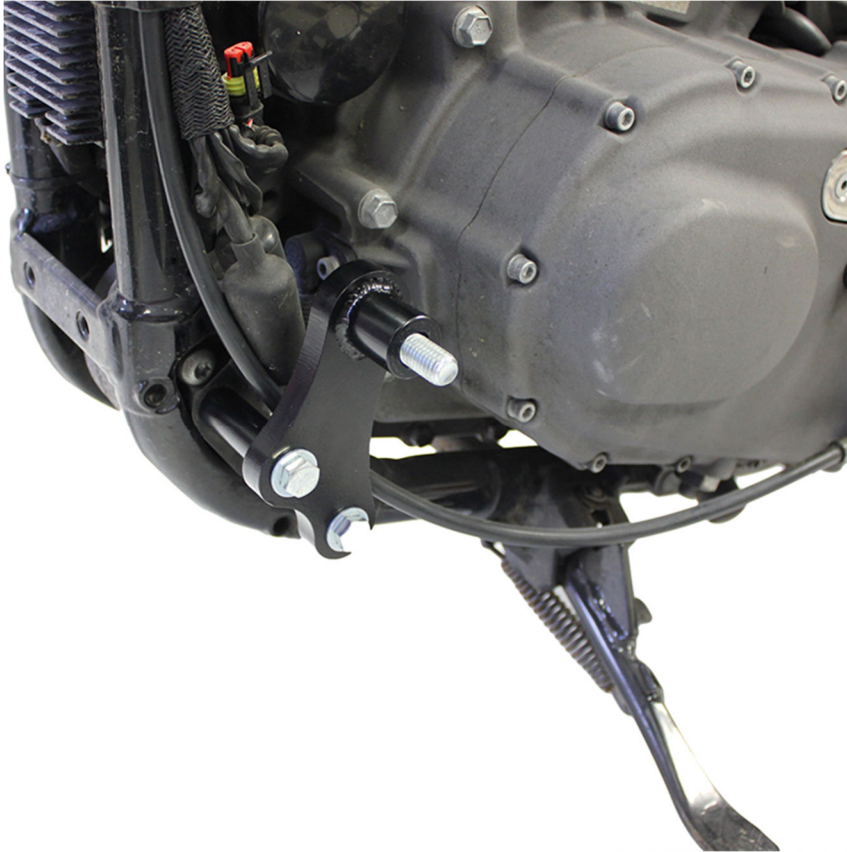

FIGURE 1
- 6.) Install shifter side forward control mount (part #MB204XL-L) loosely to bike using quantity two 3/8-16x3" bolts (part #119-0170) and quantity two 3/8 Flat Washers (part #119-0026). *Remember to apply threadlocker.* It will install in the same location as your stock shifter side forward control mount that you removed in step 3. **See figure 1.** Using a torque wrench, torque the 3/8" bolts (part #119-0170) to 30 ft-lbs (40.7 N-m).